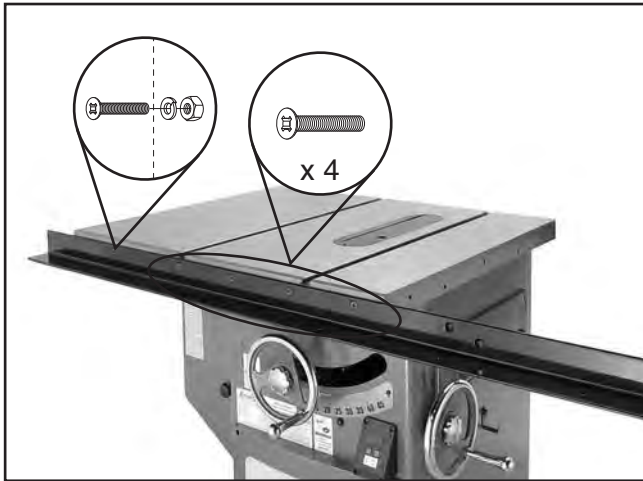

Figure 13. Front rail installed.
1. Fasten the 91½" front rail onto the table saw with four M8-1.25 x 25 flat head screws, as shown in **Figure 13**. Also, secure the far left side of the rail with one M8-1.25 x 25 flat head screw, 8mm lock washer, and an M8-1.25 hex nut.